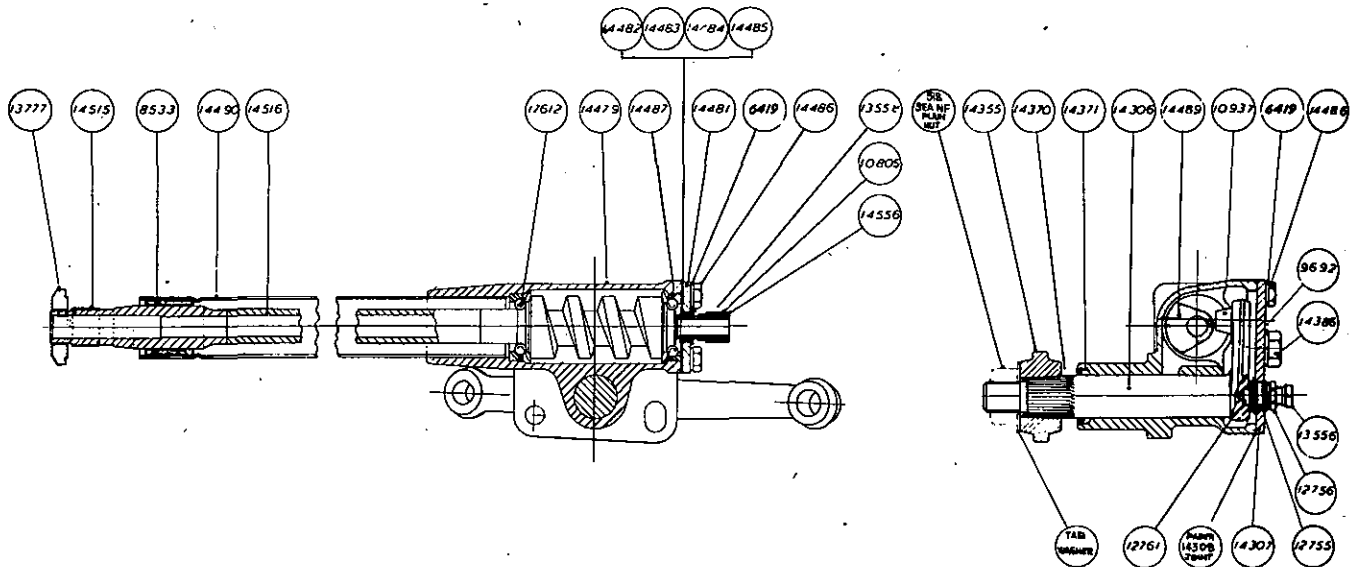

Fig. 5. Sectional view of Bishop's cam and lever. Model "T" steering gear
### Type and Description (Fig. 5).
The Steering Gear is the Bishop Cam and Lever Model "T" having a ratio of 11 to 1. The cam portion takes the form of a generated worm and runs in ball bearings. The rocker shaft runs in a plain bearing and a lever integral with the shaft carries a peg which is conical at one end to engage the cam, and as the conical part of the peg does not touch the bottom of the cam groove, adjustment for wear is effected by varying the depth of engagement. This is done by means of the set-screw 13556 (Fig. 5) in the top cover of the steering gear.
The gear is illustrated in Fig. 5, from which it will be observed that it is a self contained unit of extreme simplicity consisting essentially of a cam 14489 mounted on the bottom of steering tube 14516, which engages with the rocker shaft 14306 through a spiral groove cut in the periphery of the cam and a fixed peg mounted in the top of the integral lever of the rocker shaft.
If the steering is stiff in the centre position only, the adjusting screw 13556 (see Fig. 5) is probably tightened up too much. Screw up "finger tight" only, but lock up the lock nut really tight. This adjustment *must* be made with the gear in the centre position only.
ahead position. This is due to play of the taper pin in the cam groove, and is eliminated by re-adjusting the screw (13556 Fig. 5) until a slight binding can be felt when turning the steering wheel to and fro with the gear in the *straight ahead position*.
Lost motion can be easily detected by lightly shaking the drop arm (14355, Fig. 5) in a forward and rearward direction and moving the steering wheel to and fro near the straight ahead position until the least amount of play is found (this fixing the deepest point of engagement between the rocker shaft lever and cam). Keep the gear in this position and then adjust the setting of the screw (13556, Fig. 5). Be careful not to adjust this screw too far in so that the feel in the straight ahead position is too heavy; just a slight touch is all that is required, otherwise the top cover plate 14307 will be damaged and oil lost quite apart from the fact that the steering will be rendered stiff in the straight ahead position
1. Disconnect the rods from the drop arm (14355, Fig. 5). Set the steering partly towards right- or left-hand lock. (Full lock position should not be used). Grip the lever firmly and try to move it forwards and backwards (holding the wheel from turning) and see if the steering wheel shows any lift. If such play exists, this is due to end play of the cam in the ball bearings. The remedy for this lift is to remove one or more shims adopting a similar procedure to that described further on for the addition of shims when dealing with a tight bearing. A very slight pre-loading of balls is permissible.
Remove top cover plate and rocker shaft. If by turning the steering the ball bearing can be felt grinding, the cam bearings (17612, Fig. 5) are too tight.